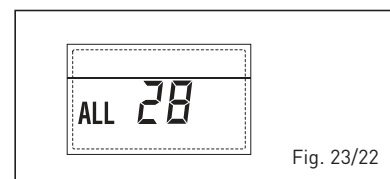

Fig. 23/22
– **ANOMALIE NUMERO DE CARTE ATTACHÉS “ALL 29”** (fig. 23/23)